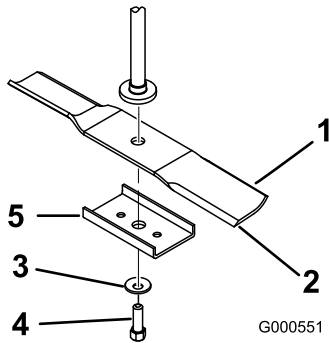
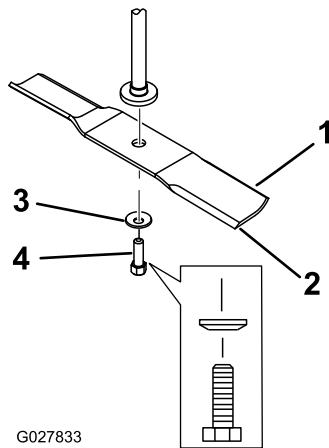

Figure 56
Figure 57
2. Remove the blade stiffener (32-inch decks only), blade bolt, the curved washer, and the blade from the spindle shaft (Figure 56 and Figure 57).
1. Install the blade onto the spindle shaft (Figure 57).
2. Install the blade stiffener (32-inch decks only), curved washer (cupped side toward the blade), and blade bolt (Figure 57).